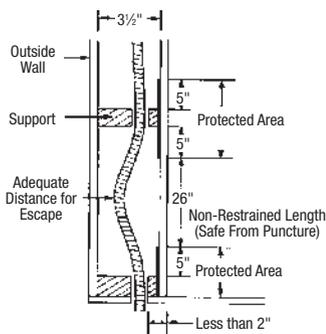

Figure 4.10 ELEVATED VIEW OF UNSUPPORTED HORIZONTAL TUBING RUN
- At support points and areas of possible penetration less than 2 inches away from any edge of a stud, joist, plate, etc., shielding is required both at the area of support and within 5 inches of each side. (Figure 4.10)